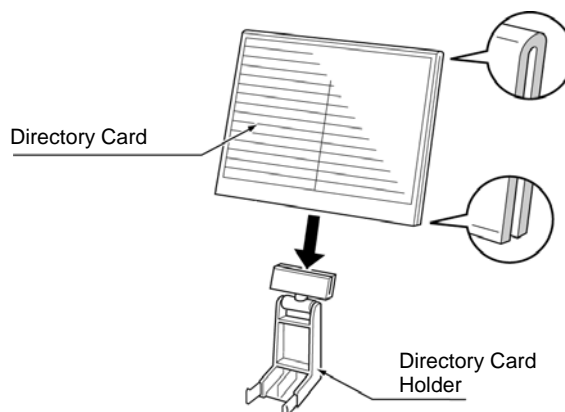

Figure 4-11: Attaching Directory Card to Directory Card Holder
1. After recording the information on the lined insert, reinsert it between the plastic panels of the directory card. Attach the directory card to the directory card holder as illustrated in *Figure 4-11: Attaching Directory Card to Directory Card Holder*. Note that the open end slides into to the directory card holder.